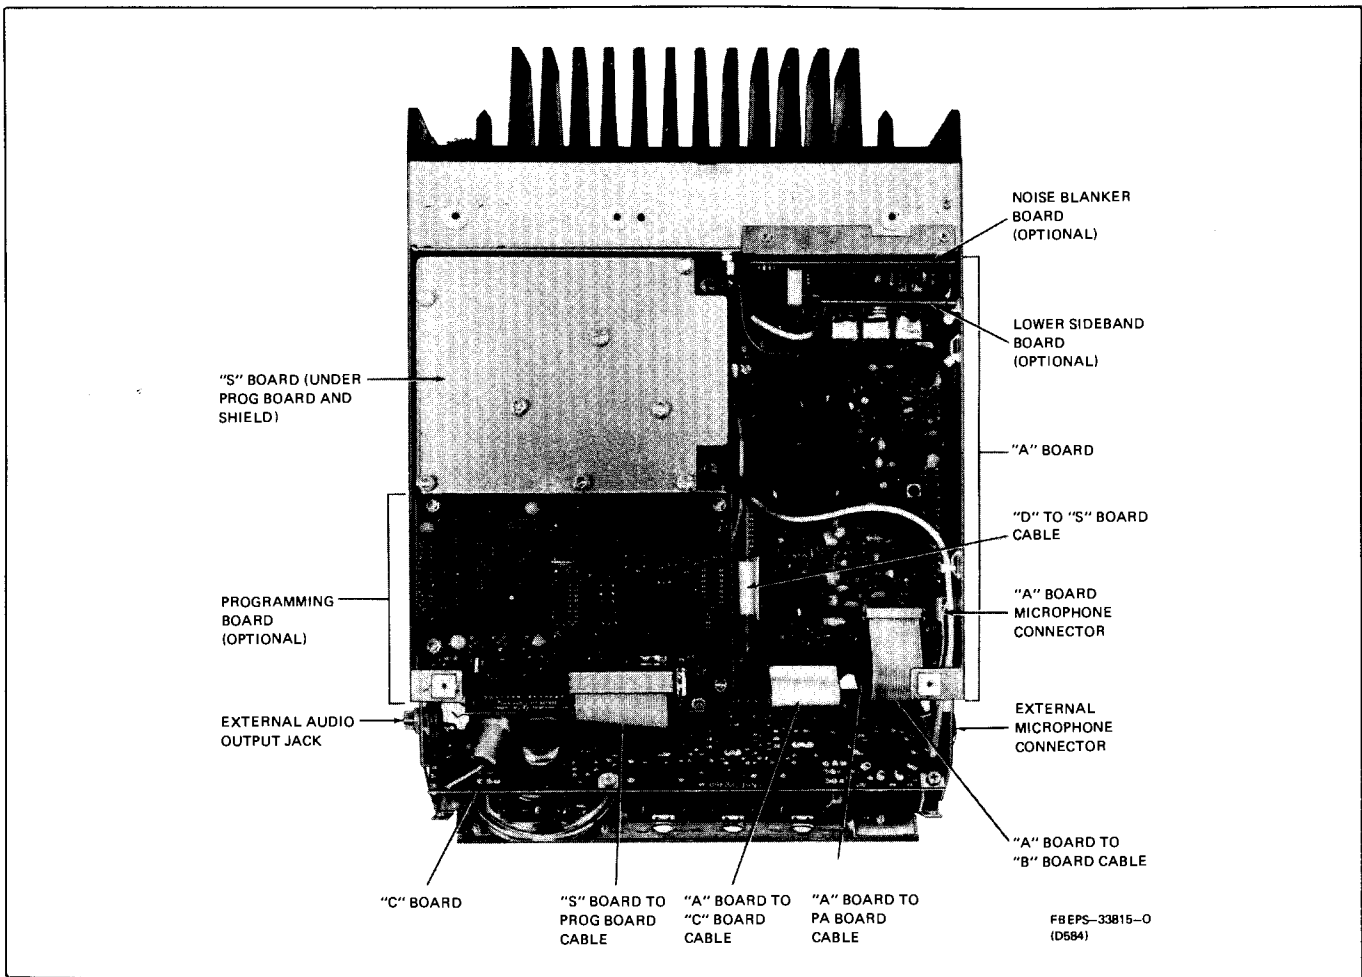

Figure 2. Major Assemblies as Seen From Bottom of Radio
Step 5. If using the TPN1177 AC Power Supply, remove the end terminal lugs of each wire (RED, GREEN, BLACK) and replace with the appropriate terminals provided with the TPN1177 Power Supply. The RED and GREEN terminals are then connected to the “+” side of terminal strip TB2 of the power supply (see Figure 2 of Power Supply Manual 68P8111E32). Connect BLACK wire terminal to “-” side of TB2 terminal strip.
SLN6321 In-Line Coupling Unit as per Figure 2 of Alignment section.	Used for coupling a sample of rf output to test equipment.